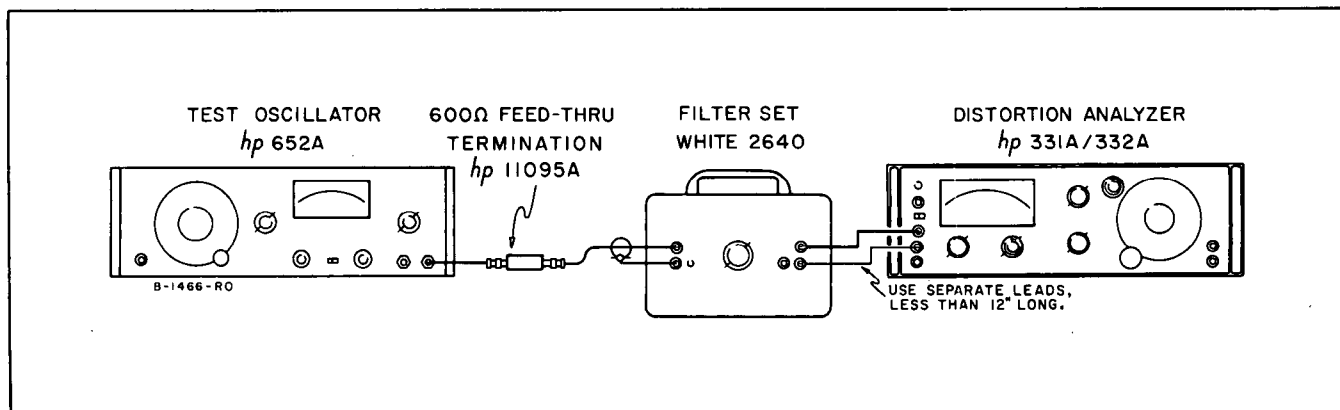

Figure 5-2. Instrument Induced Distortion Check
- a. Connect test equipment to 331A/332A as shown in Figure 5-2. Set filter pass frequency to 500 Hz.